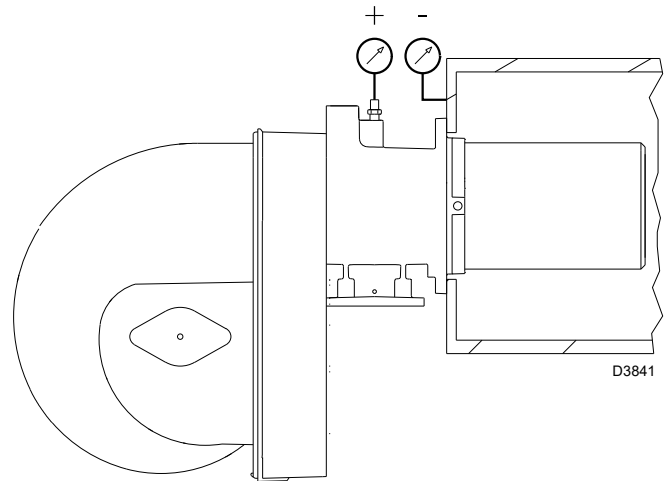

Fig. 26
- Assemble a pressure gauge (Fig. 26) on the gas pressure test point of the pipe coupling.
The arrival of gas at the pipe coupling is indicated by the U-type manometer (Fig. 26).
A guideline indication can be calculated from the Tab. F on page 20, simply read off the gas pressure on the manometer Fig. 26 on page 24, and follow the "Gas pressure" on page 20.